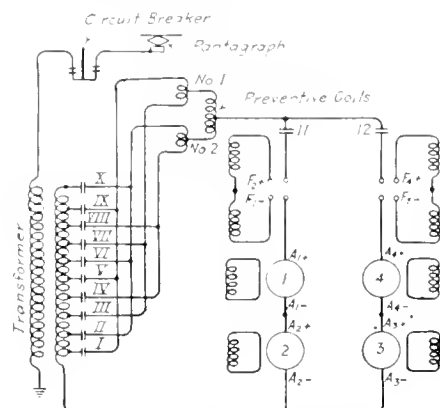

FIG. 21. SCHEMATIC DIAGRAM MAIN CIRCUITS A. C. LOCOMOTIVE.
A.—A schematic diagram of connections for an A.C. locomotive is shown by Fig. 21. This schematic diagram shows the pantagraph trolley which collects the power from the overhead wire, the circuit breaker through which the high-tension current passes, and the transformer, which is of the double-coil type—the other end of the primary of the transformer being connected to ground. The secondary of the transformer has, in this case, ten taps which are connected to switches marked from 1 to X. These taps, after passing through the switches, connect to four leads running to the preventive coils, every fourth tap connecting to the same lead. From the preventive coils one lead is taken as the source of supply, and divides into two circuits, feeding two motors in series in each circuit.